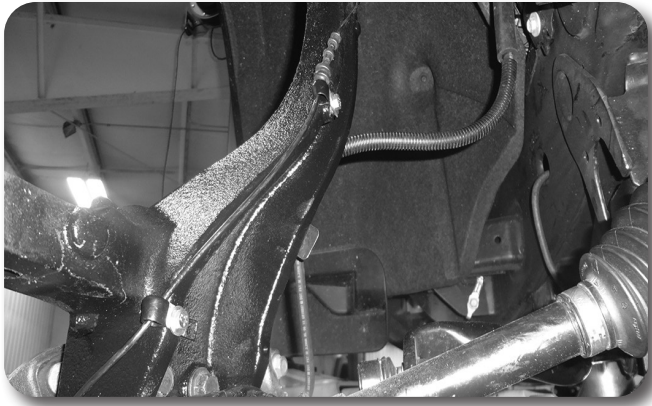
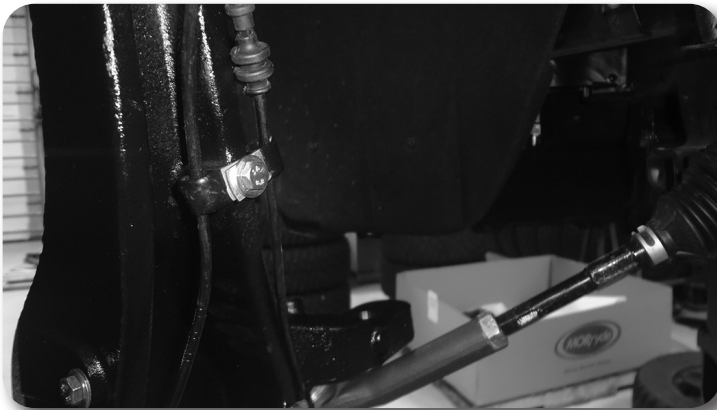

Figure 42
Figure 43
64. Attach the ABS wire to the knuckle with the provided wire clamps and 6mm bolts, washers, and thread locker as shown in Figures 42 & 43. Figure 43 shows the driver side with the brake sensor wire routing along the knuckle as well. Torque hardware to 92 in-lbs.